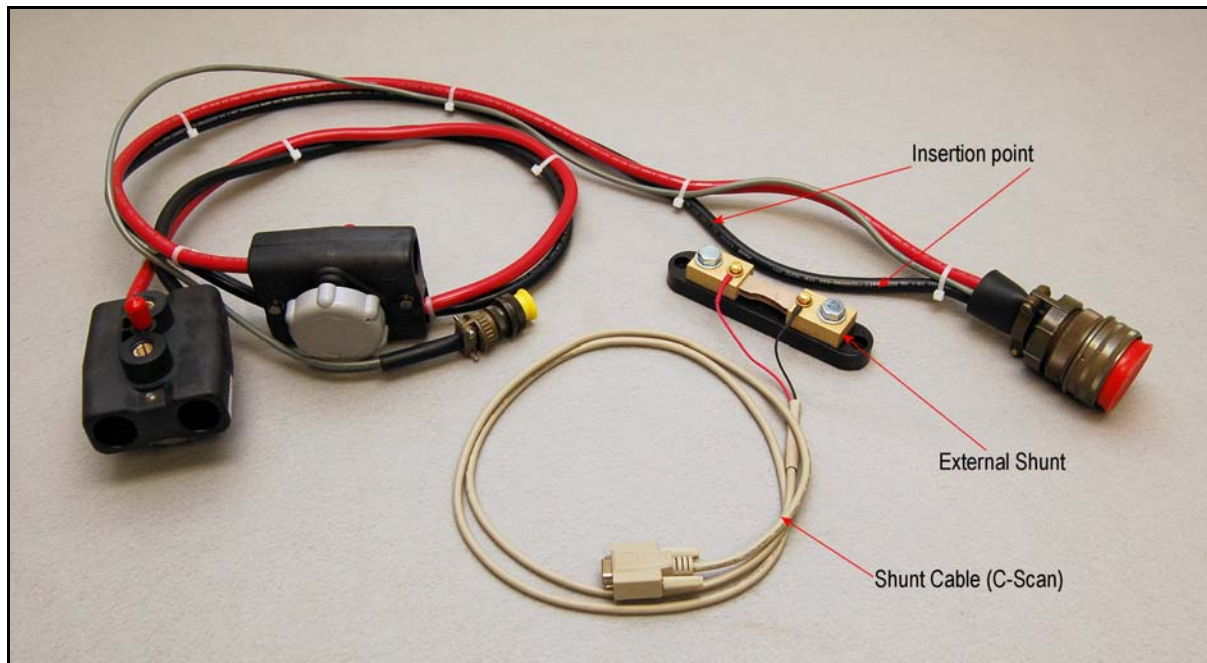

Figure 2 – Suggested External Shunt Insertion Point
1. See [Figure 2] for a suggested insertion point in the Battery Cable.